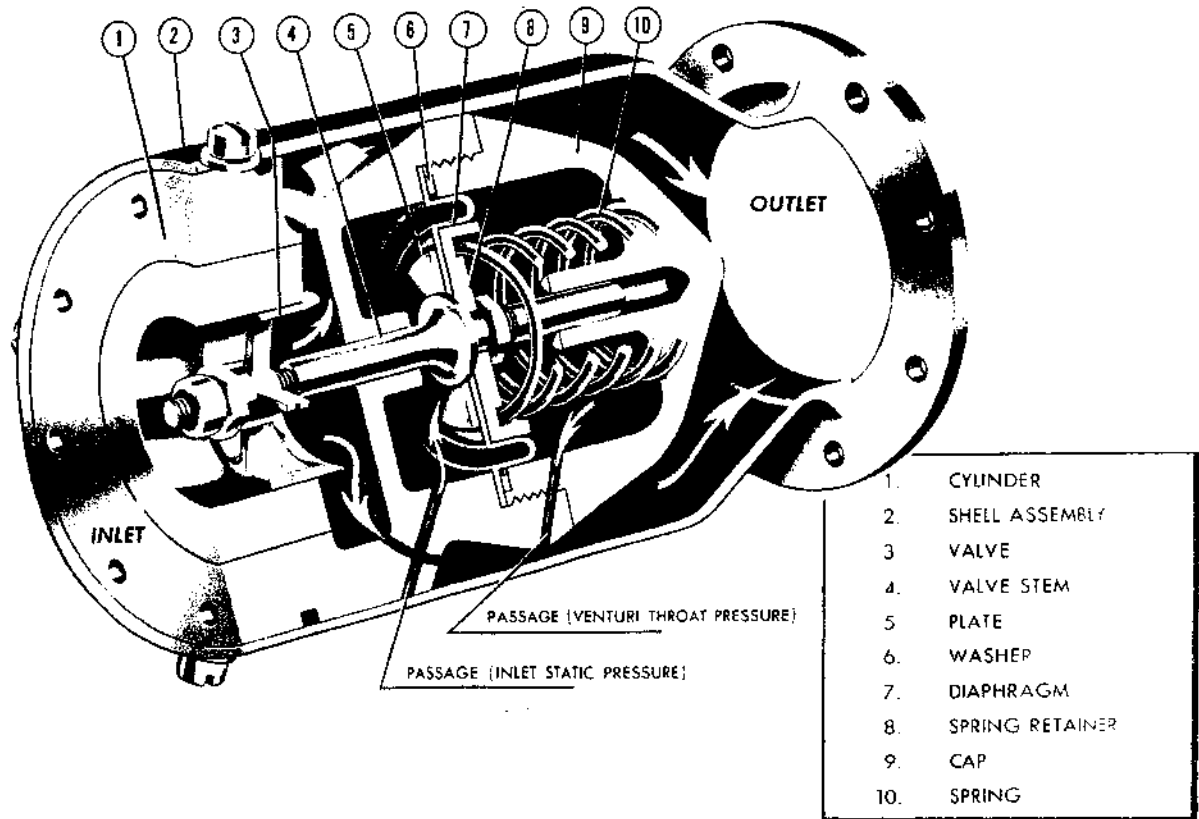

Figure 252 — Flow Control Valve, P-80A-1 Airplanes
f. FLOW CONTROL VALVE (F-80A-1 Airplanes only). (See figure 252.)
(1) DESCRIPTION. — The flow control valve maintains sufficient air flow from the engine compressor to take care of cockpit leakage and to provide the proper amount of air for the pilot. The air flow is maintained at the proper amount regardless of supply pressure or cockpit pressure. The valve is located in the sub-cockpit compartment and is connected in the line between the cockpit or mixed air port of the heat control valve and the air selector valve.
(2) MAINTENANCE REPAIRS.—The flow control valve is preset at the factory to give the proper flow and is non-adjustable. If a flow control valve is found to be defective, replace it with a new or reconditioned valve. If no replacement valve is obtainable, it may be possible to correct the defective valve by cleaning the bore and plunger at the end of the valve with unleaded gasoline. Be sure that all oil and dirt are removed from the valve and that the plunger can move freely in the bore. When installing the valve, be sure that no leaks occur at connections.